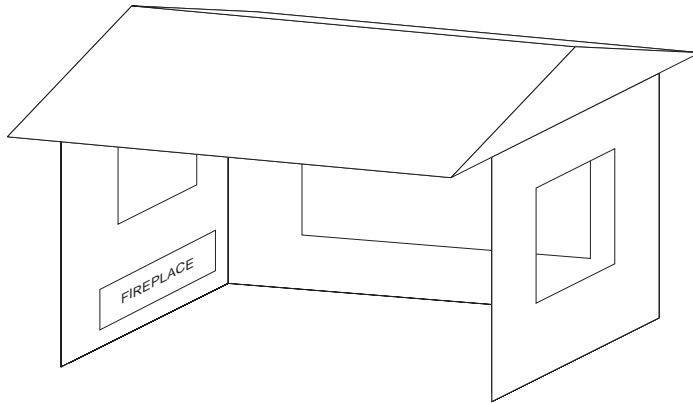

Figure 7
- Within a partial enclosure that includes an overhead cover and three side walls, as long as 30 percent or more of the horizontal periphery (perimeter of walls and open side) of the enclosure is permanently open. **See Figure 7.**